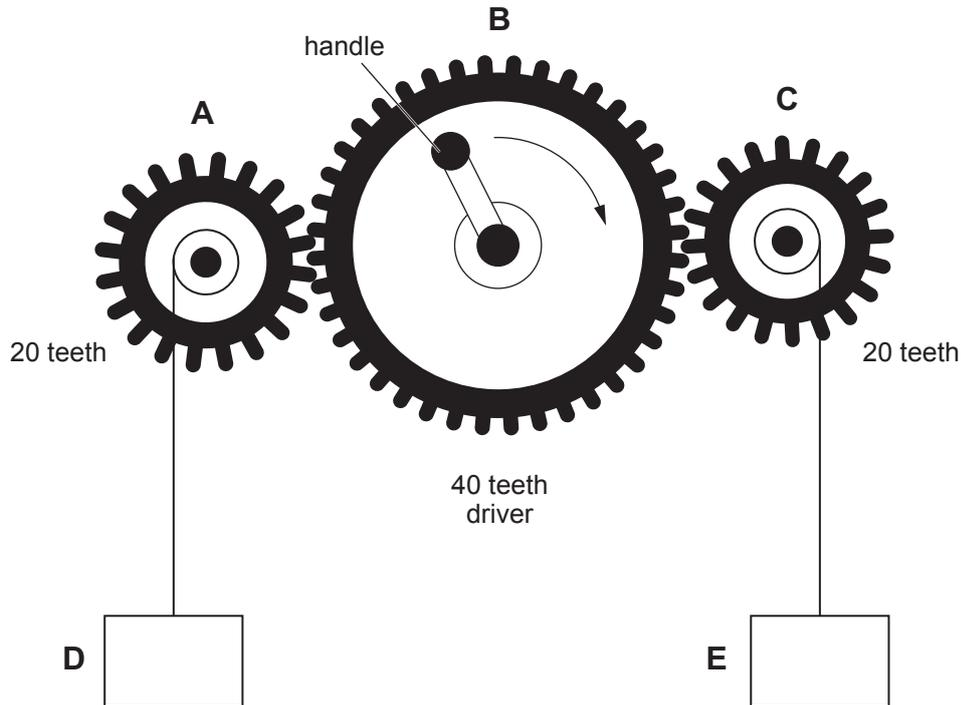

Fig. 3
- 3 Fig. 3 shows a gear train used in a toy crane. The loads **D** and **E** are raised and lowered by cords wound on pulleys attached to the gears **A** and **C**. The gear **B** can be rotated by a handle as shown.
Mark on **Fig. 3**: